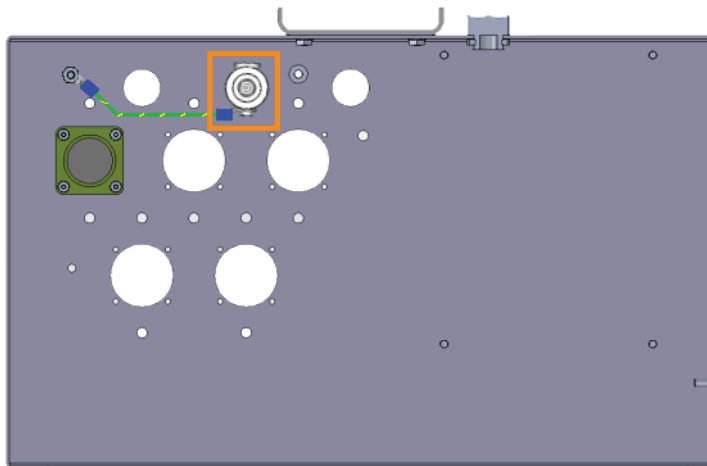

Figure 11 Connect Surge Arrester Ground Wire
Step 16. Attach the other end of the green and yellow wire to the ground stud with the existing nut. See *Figure 11*.